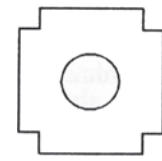

FIG. 3
Step 9. Once the “FLEXJET” liner is in place slide the flashing (flange side up) over top of the termination fitting and secure it with three (3) evenly spaced self tapping sheet metal screws thru the flange and into the fitting. On a chimney with a clay tile protruding, notch the flashing corners so that the sides can be bent over the edge of the clay tile (see FIG. 3). Place a bead of quality silicone sealant on top of the clay tile. Push the flashing down firmly on to the silicone to create a good seal. Finally bend the sides down. For chimneys with crowned and non-protruding clay tile liners, slit the flashing to conform to the crown slope (see FIG. 4). Use masonry anchors to secure the flashing. Seal all joints, open edges and all fastener holes with a quality silicone sealant.